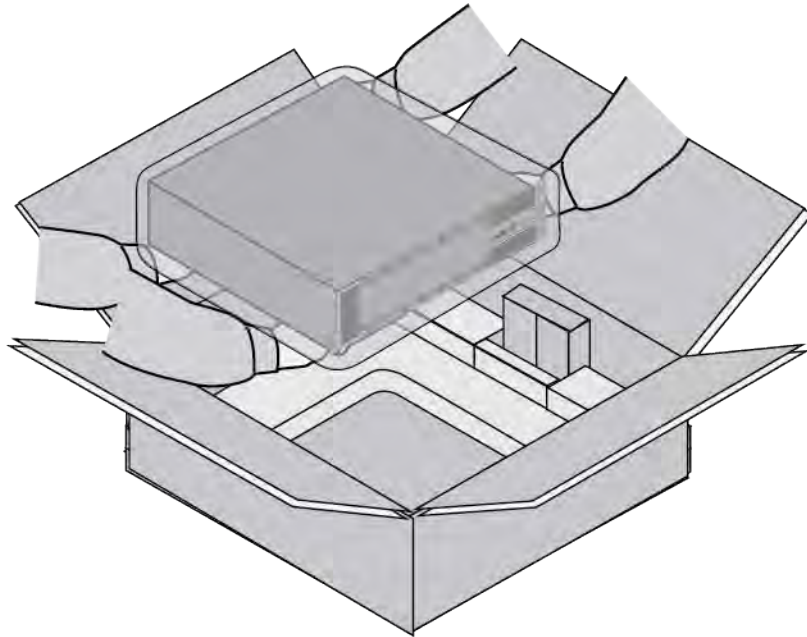

Figure 17. Lifting the Switch from the Shipping Box
- Carefully lift the switch from the shipping box and place it on a level, secure table. Refer to Figure 17.